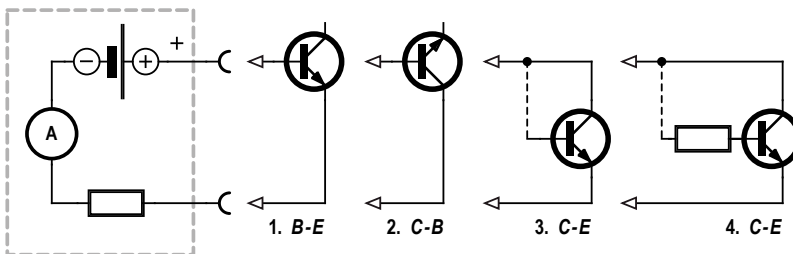

Figure 8. Transistor measurements.
A transistor can be fully tested with the aid of three typical measurements. First you measure the base-emitter junction and the base-collector junction (see the 'Basic transistor operation' inset), which allows you to distinguish between silicon and germanium transistors and identify any short-circuits (**Figure 8**, parts 1 & 2). After this you measure the resistance between the emitter and the collector with and without base current (3). A transistor in good working order will show infinite resistance (no current) with the base open. With the base connected to the collector, the indicated current should be somewhat greater than the current through the base-emitter junction alone.